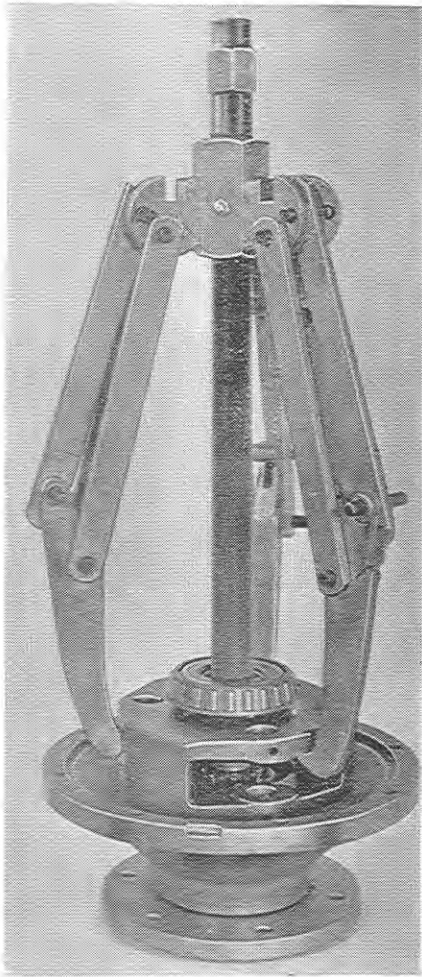

Fig. 3
- 5) Separate the planetary carrier from the reduction housing using a three legged extractor with a capacity of up to 6 tons (Fig. 3).